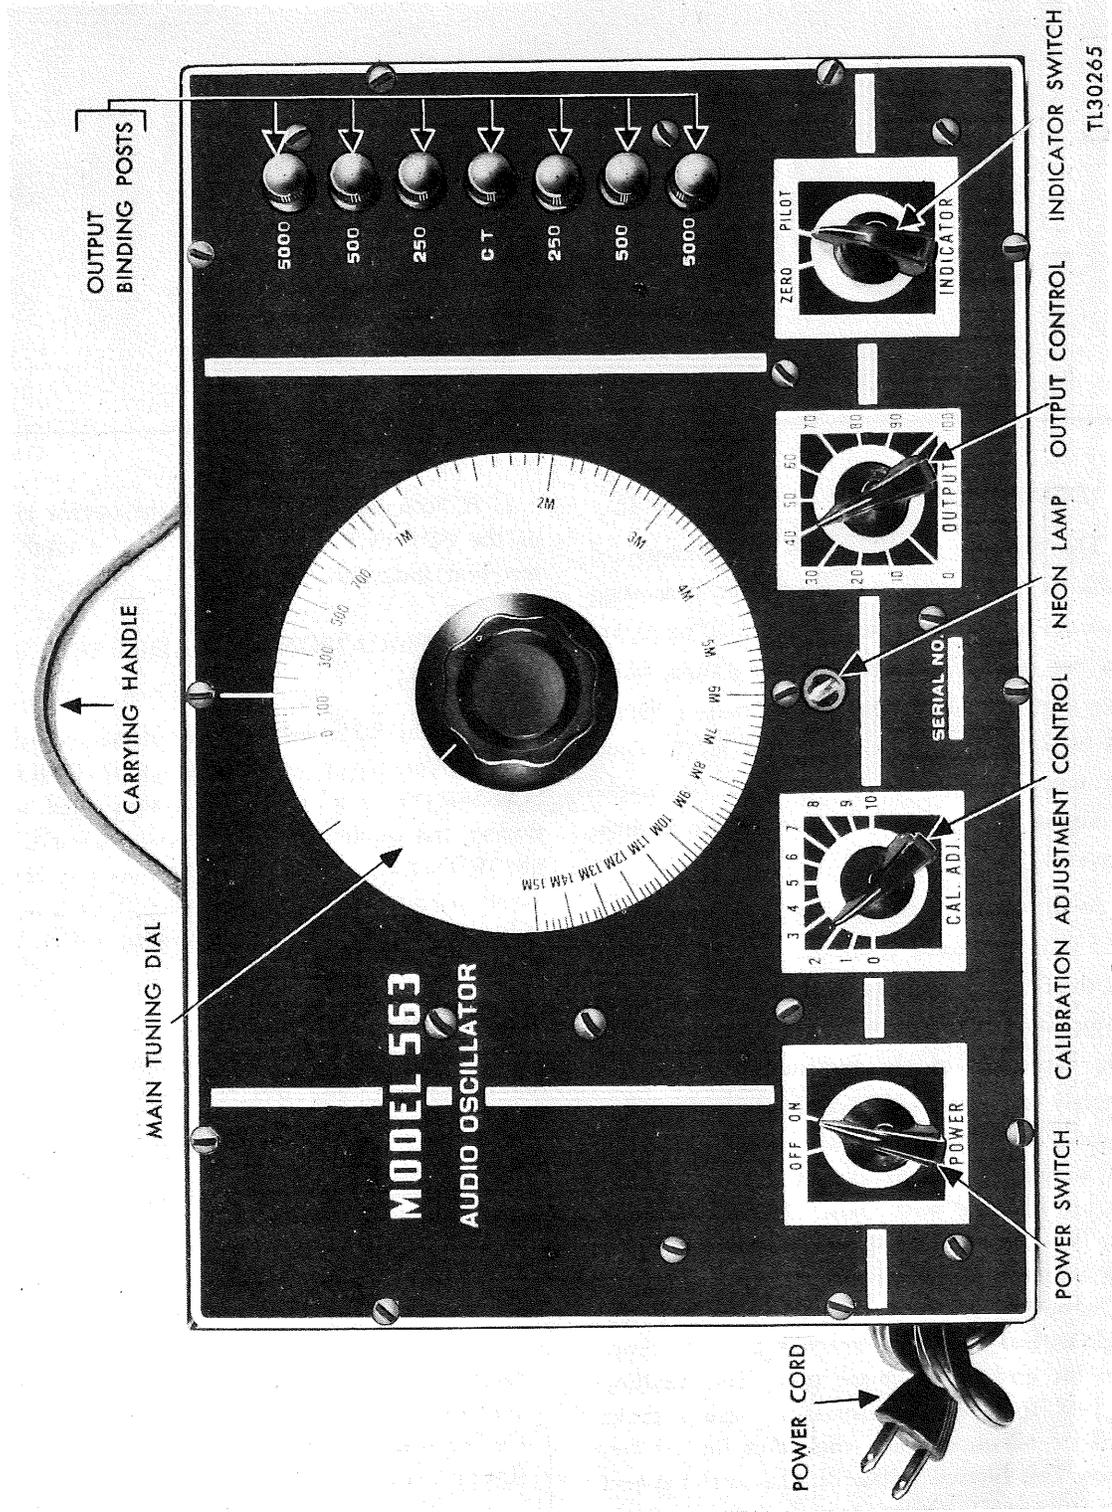

Figure 43. Audio oscillator, Supreme model 563, panel view.
c. A neon lamp (fig. 43) in the output circuit of the 6C5 (VT-65) amplifier tube is used as a zero-beat indicator.
l. Turn the OUTPUT control (fig. 43) to adjust the signal voltage input.